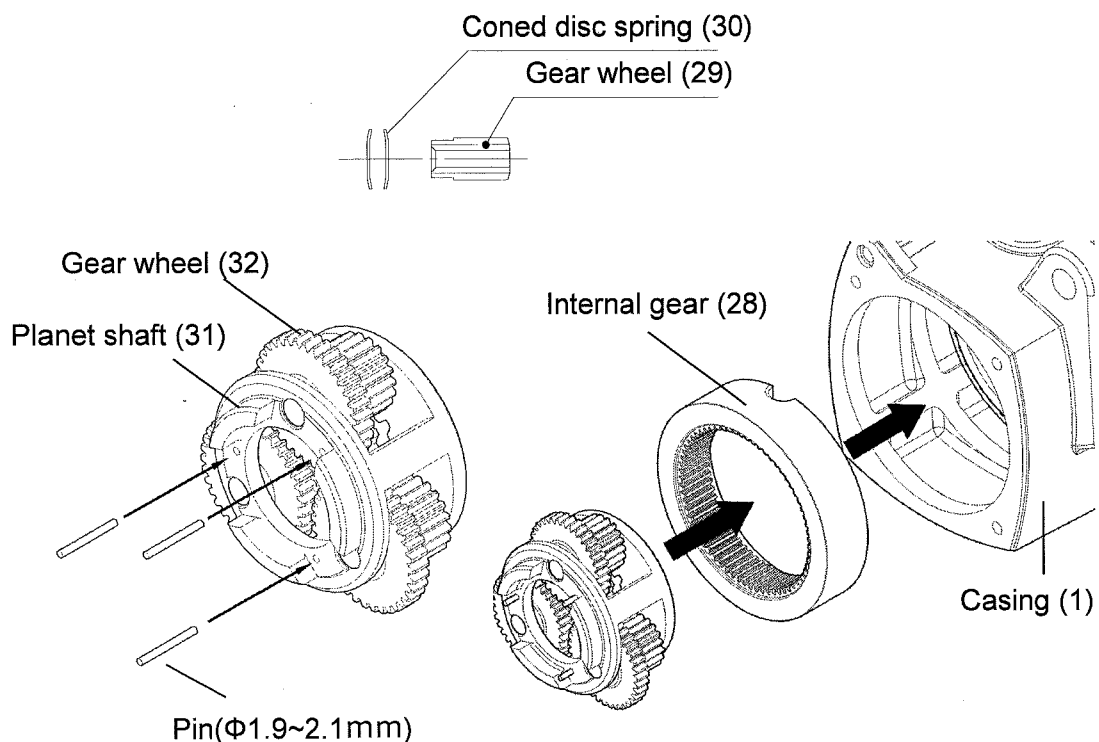

Fig.20
See Fig. 20 for the setting direction of Coned disc springs(30).
- a) Fix Gear wheels(32) to Planet shaft(31).
- b) Fix Gear wheels(32) onto Planet shaft(31) by inserting the pins into the holes of Planet shaft and Gear wheels respectively (See Fig. 20).
- c) With Gear wheel(32) fixed, insert Planet shaft(31) in Casing(1).